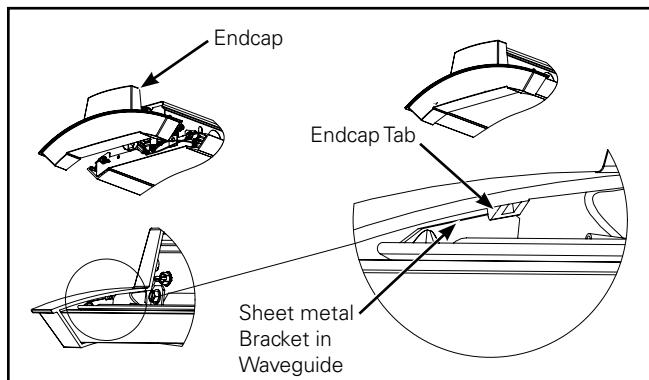

Figure 7.
7. Remove protective film from the waveguide. Remove endcaps from parts box, install Endcap to fixture. Tuck wire harnesses and safety cable while installing. Endcap tabs must fully engage in the metal bracket. (Figure 7.)